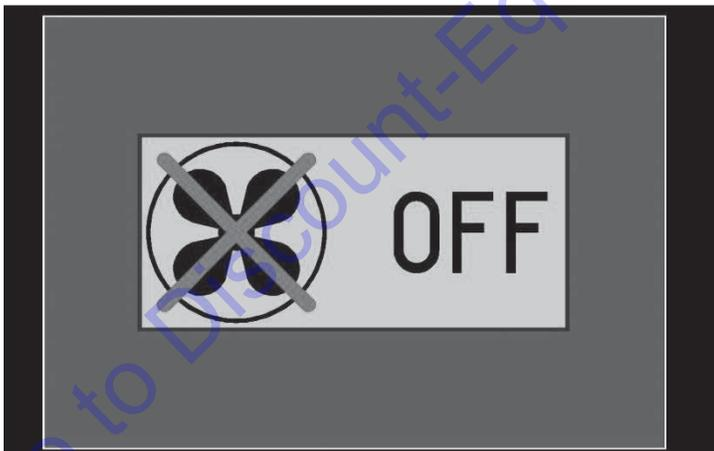

Figure 33
- Once the temperature has been reduced to 130°F (54.4°C), the main fan will shut off, then the START screen should appear. See Figures 33 and 34.